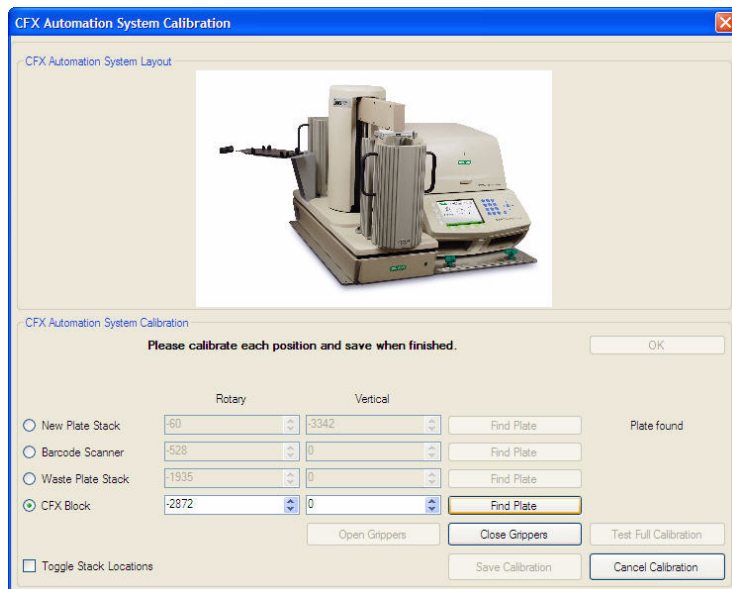

Figure 23. Teaching CFX block position.
- The arm then moves down until the plate sensor switch is activated by the lip of the PCR plate, the vertical offset text box is recorded. A **Plate Found** message will display to the right of the **Find Plate** button (Figure 23).